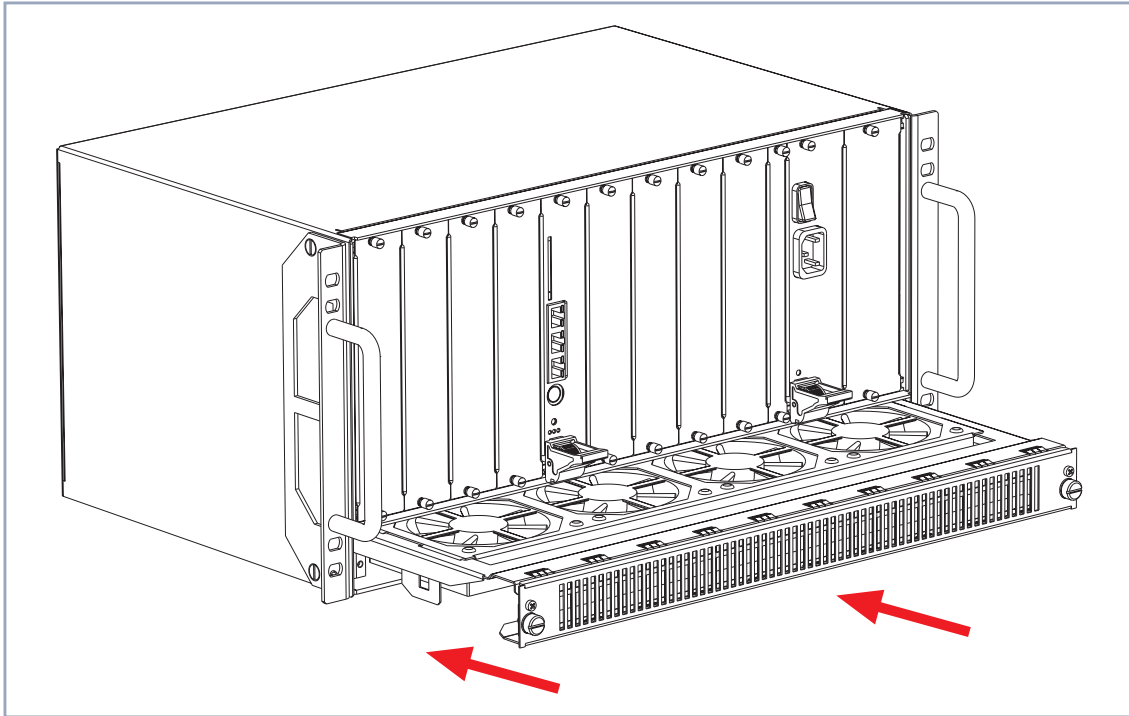

Figure 4-13: Inserting the fan cassette into the fan slot
- Insert the fan cassette into the fan slot as shown in figure 4-13, page 50.